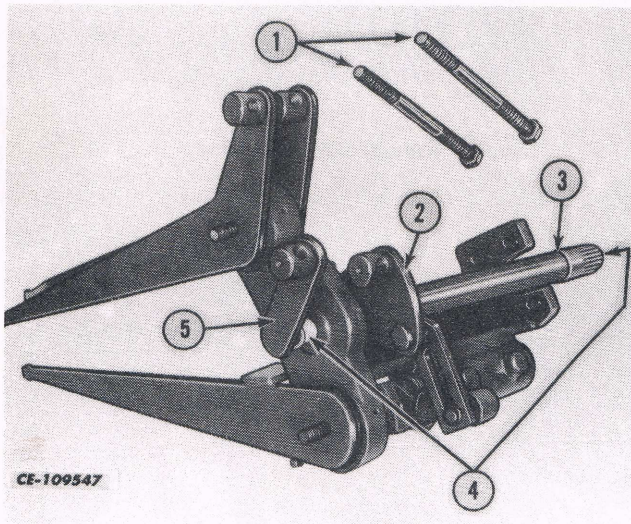

Fig. 15
- a. Remove the hitch link connecting rods (1) from the load and position levers. See Fig. 15.
- b. Remove the load control shaft (5) with the control lever shaft bearings. See Fig. 15.